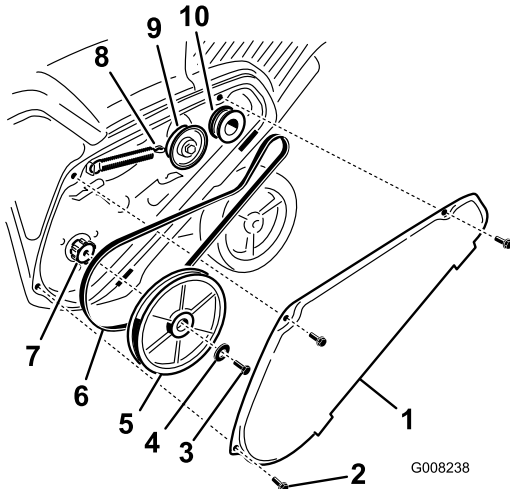

Figure 35
1. Remove the drive-belt cover by removing the 3 bolts as shown in Figure 35.
loose rotor pulley positioned just above the rotor shaft (Figure 35).
6. Install the rotor pulley onto the rotor shaft (Figure 35).
7. Install the curved washer and the rotor pulley bolt and tighten them securely (Figure 35).
2. Unhook the brake spring from the idler arm to release the belt tension (Figure 35).
3. Remove the screw and curved washer that holds the rotor pulley (Figure 35).
4. Remove the rotor pulley and the drive belt (Figure 35).